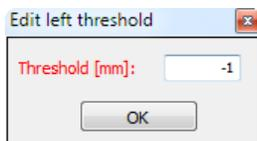

Fig. 3.44: "Edit threshold" dialog box
- If not already done so, activate the "Set threshold" mode (see Fig. 3.44).